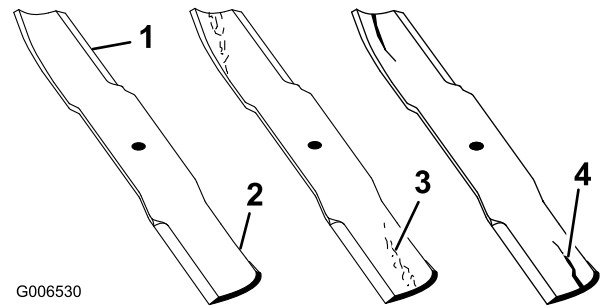

Figure 47
1. Inspect the cutting edges (Figure 47).
2. Inspect the blades, especially the curved area (Figure 47).
**Note:** If you notice any damage, wear, or a slot forming in this area (items 3 and 4 in Figure 47), immediately install a new blade.